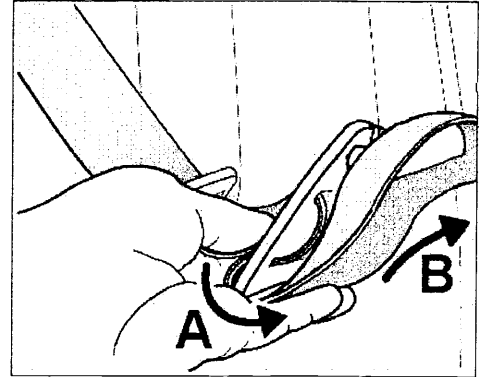

Figure 10
- 12.5** Now route the belt loop, which you pulled through the lower opening on the belt strap holder, under the holder (Figure 10, Arrow A) and through to the top (Figure 10, Arrow B).